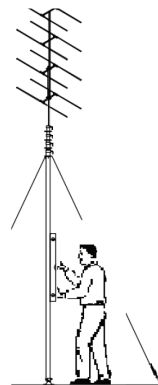

Fig 5 Check Vertical
4. Stand mast in foot mount or base plate. Attach bottom set of guy wires to turnbuckles on anchors. Tighten and check for vertical with spirit level (fig 5).